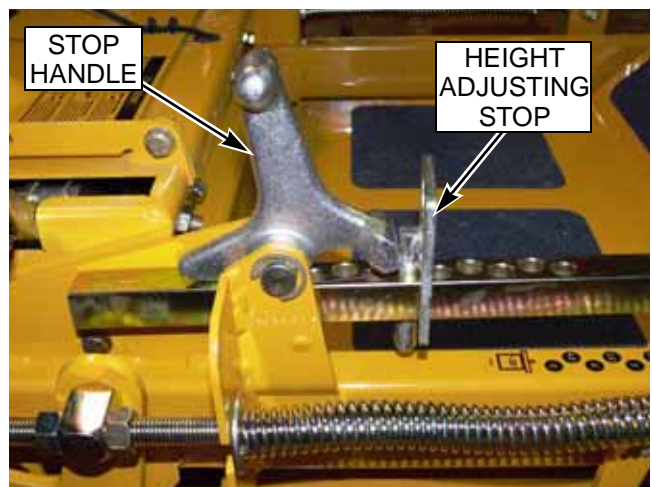

FIG. 62
4. Set cutting height at 3 ½" in the height indicator by placing the height adjusting stop in the 3 ½" hole, and turning the height stop so that the pin side is against the stop handle, FIG. 62.